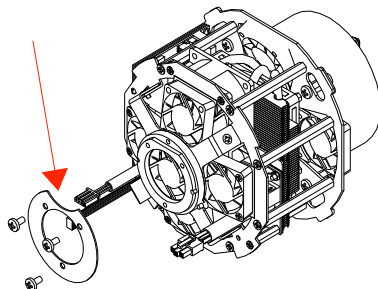

Fig.2
6. Place HPLed on working bench and start loosening the 3 M4 screws that hold the metal ring (marked by red arrow in figure 2).